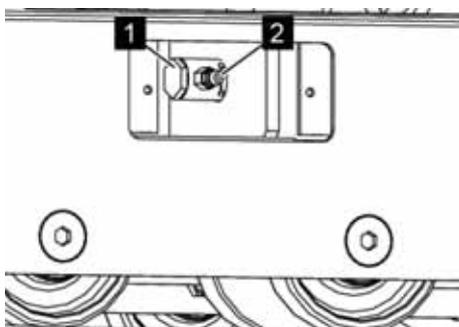
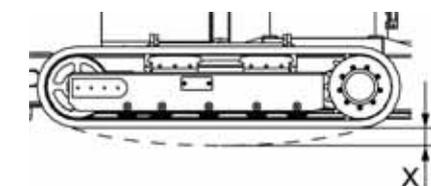

Fig. 129: Turning the slide coupling
Fig. 130: Slack X
5. ➤ Turn the slide coupling (Fig. 129/1) by 180° clockwise until the grease nipple (Fig. 129/2) points outward.
6. ➤ With a grease gun on the grease nipple (Fig. 129/2), insert sufficient multi-purpose lubricant (Item no. 3917/0095) that the chain has slack (Fig. 130/X) of 10–15 mm.
7. ➤ Make sure that no lubricant escapes on the grease nipple (Fig. 129/2).